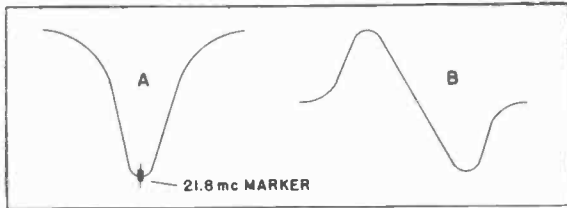

Fig. 12. Audio I-F Curves
**(1) SOUND I-F ALIGNMENT**—The sweep generator is connected through a 500 mmf capacitor to the grid of the tube preceding the sound i-f coil to be aligned. Connect the oscilloscope through a 100,000-ohm resistor across the resistor, R104, in the limiter tube V18 grid. Insert a 21.8 mc marker signal from an unmodulated signal generator into the grid of V3. Keep the marker signal attenuated so that it just shows a marker on the sweep curve. Adjust L21 and T21, respectively, as you advance progressively one stage at a time, for maximum gain and symmetry of the response curve about the 21.8 mc marker. The curve should be similar to that shown in Figure 12-A. With input at the first audio i-f, V22, the bandwidth should be approximately 300 kc at the 70% response point.
For discriminator alignment, apply the signal generator output to the grid of V22 and connect the oscilloscope to the junction of C74 and R86. The secondary core of the discriminator transformer, T19, is aligned by using an amplitude-modulated signal. The adjustment is made for minimum output, as indicated visually at the oscilloscope or by merely listening for the tone modulation at the speaker. The discriminator primary slug is adjusted for a maximum peak-to-peak amplitude response curve of the sweep signal input, as shown in Figure 12-B.